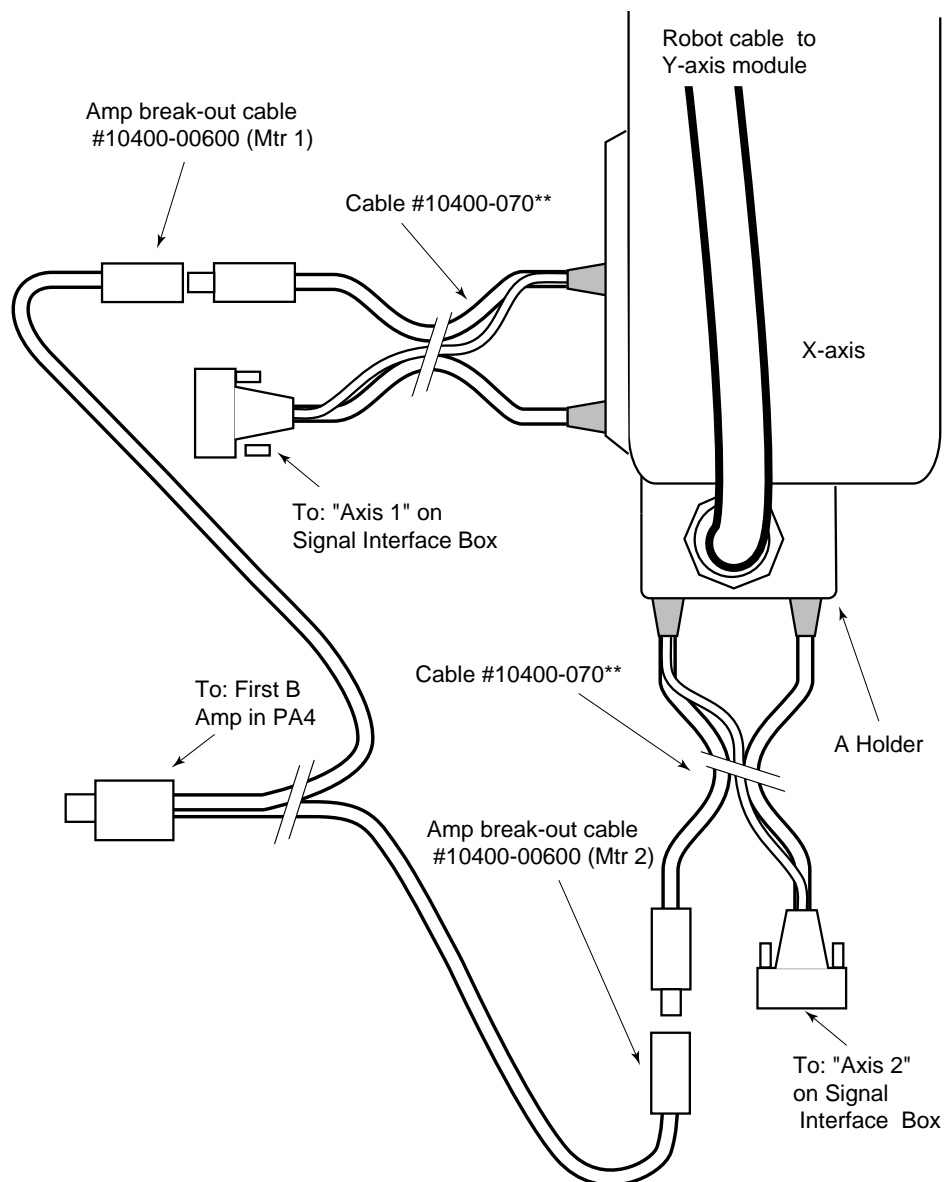

Figure 4-29. Connecting to an Adept MV Controller
- a. Connect the two barrel ends of the cable to the X-axis module as shown in Figure 4-29. These connectors have different pin sizes and cannot be installed incorrectly.
- b. Attach the A holder end of the robot cable to the motor end face of the X-axis module as shown in Figure 4-29 (refer to Section 4.3 for holder mounting).
- d. Connect the two barrel ends of the controller cable to the Z-axis robot cable holder on the X-axis module as shown in Figure 4-29. These connectors have different pin sizes and cannot be installed incorrectly. The other ends connect to the controller connections marked "2-CN6 MOTOR 2" and "2-CN5 SENSOR 2".